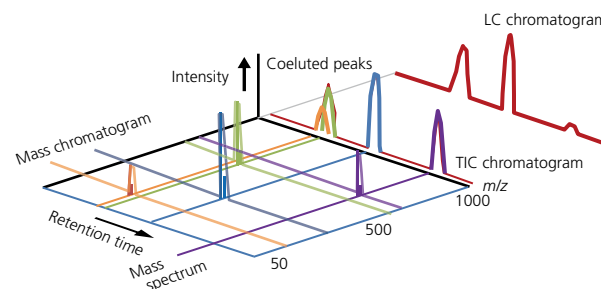

Fig. 3 Mass Chromatogram and Mass Spectrum Obtained by a Mass Spectrometer
In an analysis using an LC-MS, mass spectra are obtained every several hundred millimeters corresponding to the elution of the compounds via LC. The data obtained is displayed as a Total Ion Current Chromatogram (TIC), in which the total value for the intensity of all the ions measured is plotted versus the LC retention times, or as a mass chromatogram (MC), in which specific  $m/z$  ion intensities are plotted. Fig. 3 shows examples of a chromatogram and MS spectrum from an MS detector.